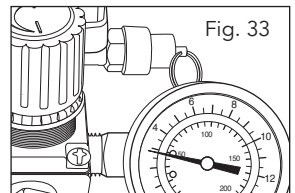

Fig. 33
3. When the ring on the safety valve (11) is released the air discharge should stop (Fig. 33).